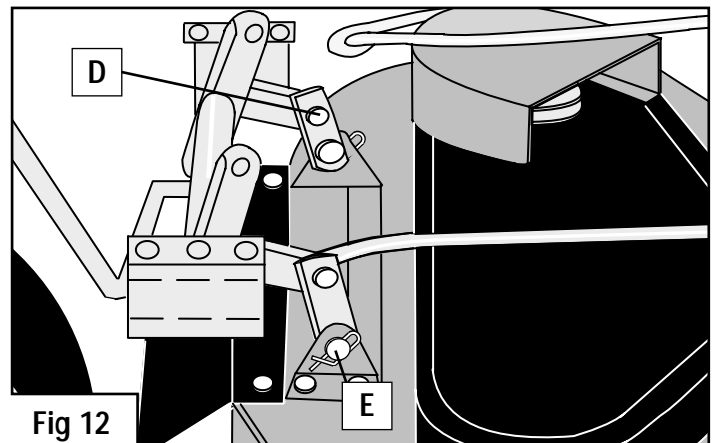

Fig 12
4. Remove the 2 securing pins and washers from the back of the deck (fig 12 – D and E).